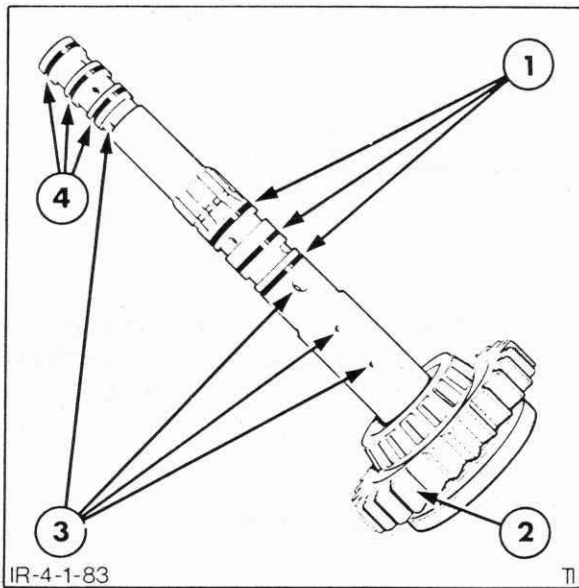

Figure 4-186
1. Thoroughly clean the rear input shaft, Figure 4-186, with a suitable solvent and allow to dry. Use compressed air to clean out the oil passages. Do not spin the bearings with compressed air.